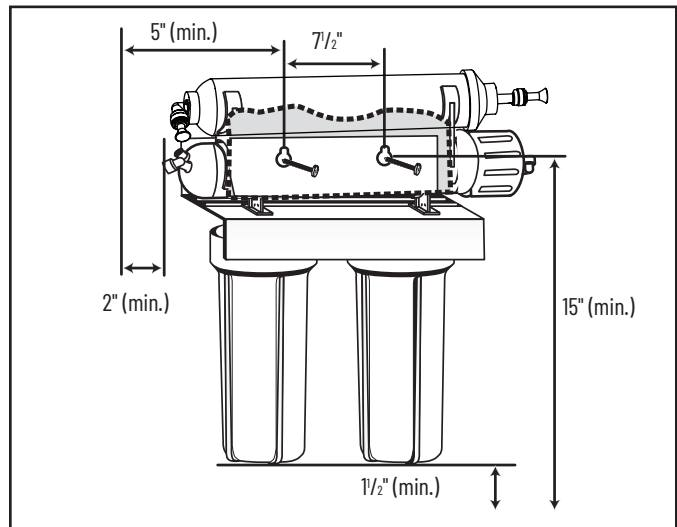

Figure 11
- A) If system is being installed under the kitchen sink, locate it on back or right wall. Make sure to allow ample space for installation (Figure 11). To change the filter cartridges, a minimum of 1-1/2" of clearance is required underneath the filter housings. A minimum of 2" of clearance from the left side of the unit is also required or 5" from the left bracket mounting screw hole.